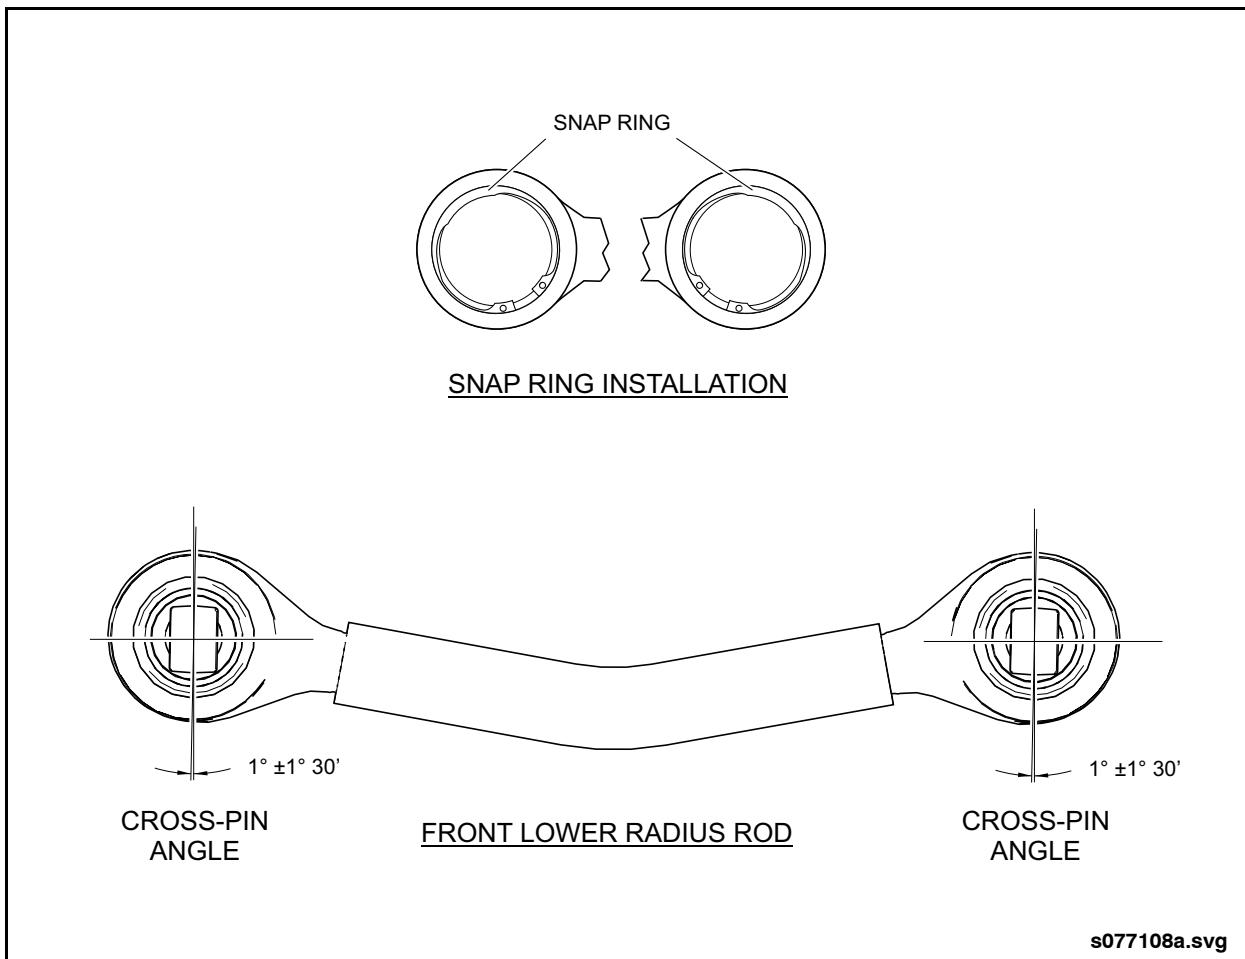

Fig. 1-38: Front Lower Radius Rod Bushing Replacement
9. Insert bushing into bore of radius rod so that the cross-pin angle is properly aligned. See "Fig. 1-38: Front Lower Radius Rod Bushing Replacement" on page 40.